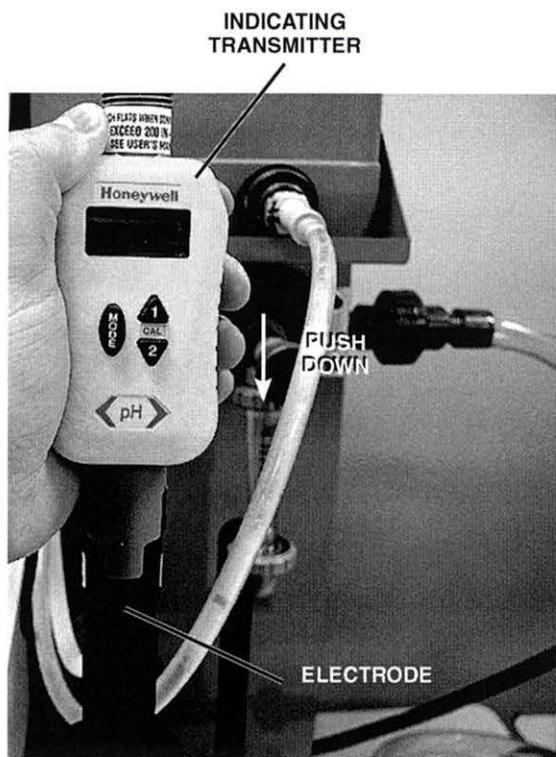

Figure 53. Attach Indicating Transmitter to Electrode Housing
- 6. Locate the indicating transmitter, shown in figure 53, and attach it to the top of the electrode housing.